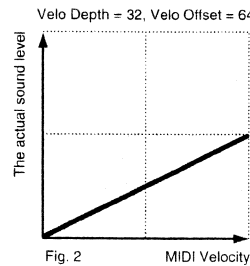
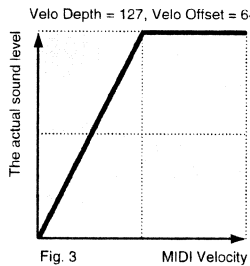

Fig. 2
Fig. 3
The SC-88ST has two MIDI IN jacks. This is because since there are only 16 MIDI channels, it is necessary to have two MIDI jacks in order to play 32 Parts (Fig.2).
If Velocity Sense Depth is increased, small differences in your playing dynamics will make a large difference in the loudness of the sound (Fig.3). If Velocity Sense Depth is decreased, even large differences in your playing dynamics will make only a small difference in the loudness of the sound (Fig.2).
* Some sounds have a sustain level of 0 (Fig.2). Piano and guitar sounds are in this category.